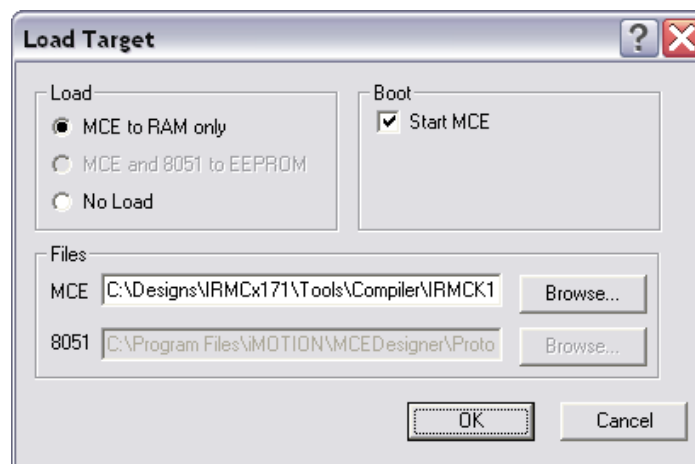

Figure 49—Load MCE to RAM
4. In the Load box, click the “MCE to RAM only” radio button as shown in Figure 49. In the Boot box, check the “Start MCE” checkbox if you want MCEDesigner to start execution of the MCE code after it’s loaded. If you want to start execution as a separate operation, leave the checkbox unchecked.